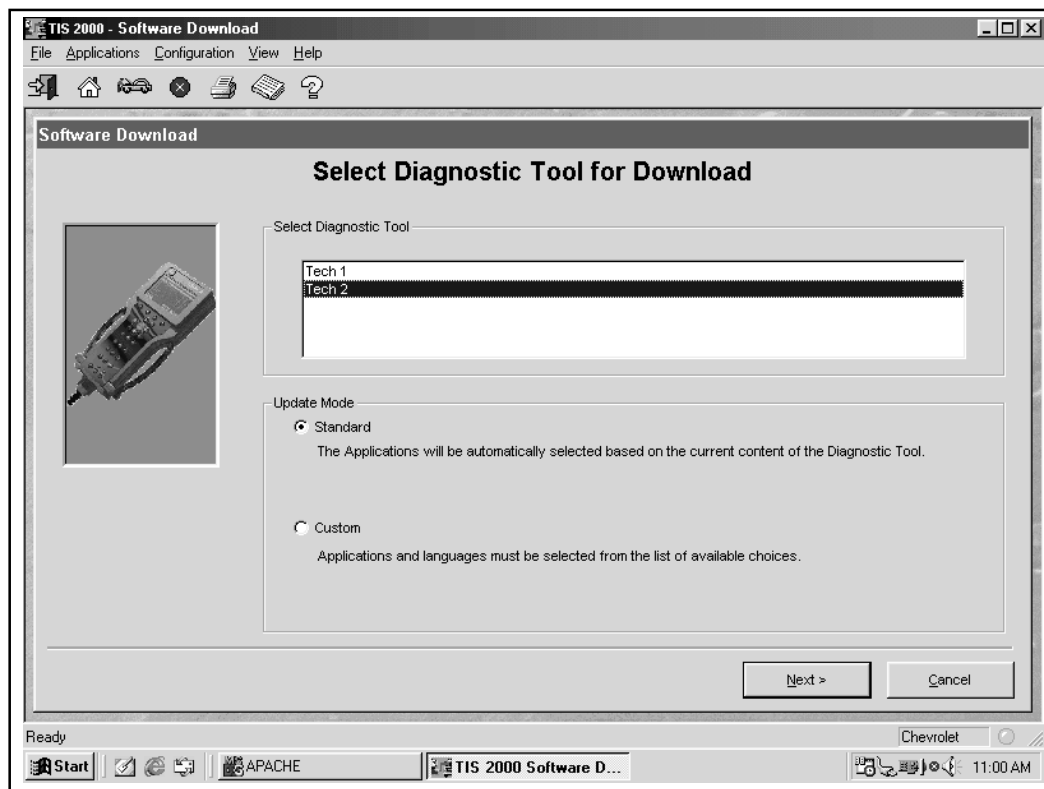

Figure I-56, Select Tool for Updating
5. At the Select Diagnostic Tool for Download screen, highlight standard (Figure I-56).
5. At the Select Diagnostic Tool for Download screen, highlight custom (Figure I-56).